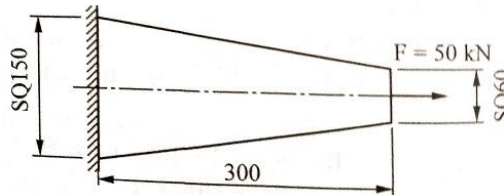

Figure: 2
- Q-3 a. An axial stepped bar is as shown in Figure 2. Model of the bar by considering it is as made of 1 element, 2 elements or 3 elements and determine the deflection in each of the cases. Plot the deflection in the bar at 100 mm, 200 mm and 300 mm from the fixed end for each of the cases. Assume the modulus of elasticity as 200 GPa. 14